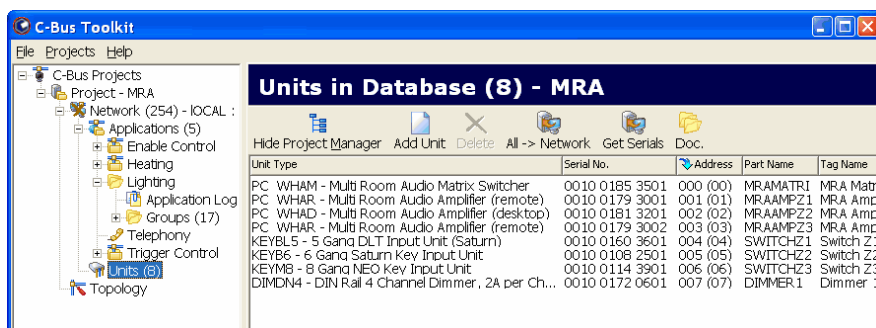

Figure 23 – Units added to the network in the MRA project
- 6) Select the Units branch of the C-Bus Toolkit tree view and add the C-Bus units to the network. Figure 23 shows C-Bus Toolkit after adding the units used in the example MRA system. Added units consist of: